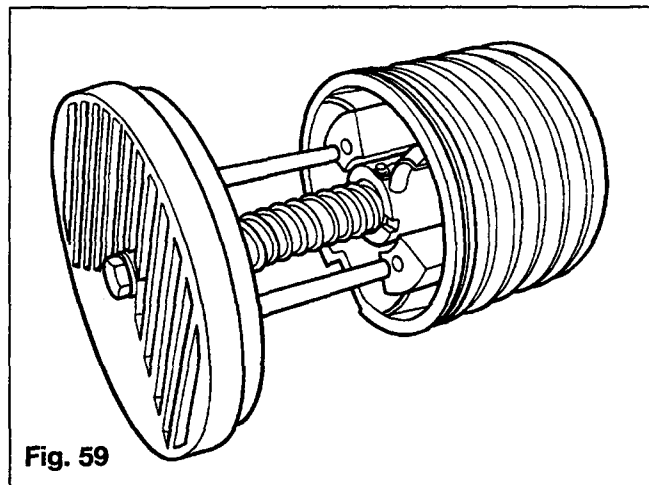

Fig. 59
1. Align and insert the brake rods into the holes in the reel (Figure 59). The anti-rotation pins in the end cover must line up with slots in the ball screw (Figure 60) and protrude $1/8"$ to $5/32"$ from the inside surface of the end cover. Insert the shorter bolt through the end cover and thread it into the ball screw. Hand tighten the bolt until the ball screw is held firmly against the end cover. Refer to Figure 60.